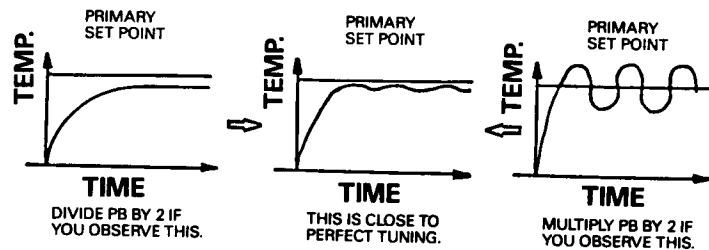

Figure 4-3. Temperature Oscillations
- If there are no regular oscillations in the process, divide the PB by 2 (see Figure 4-3). Allow the process to stabilize and check for process variable oscillations. If there are still no oscillations, divide the PB by 2 again. Repeat until cycles or oscillations are obtained. Proceed to Step 5.